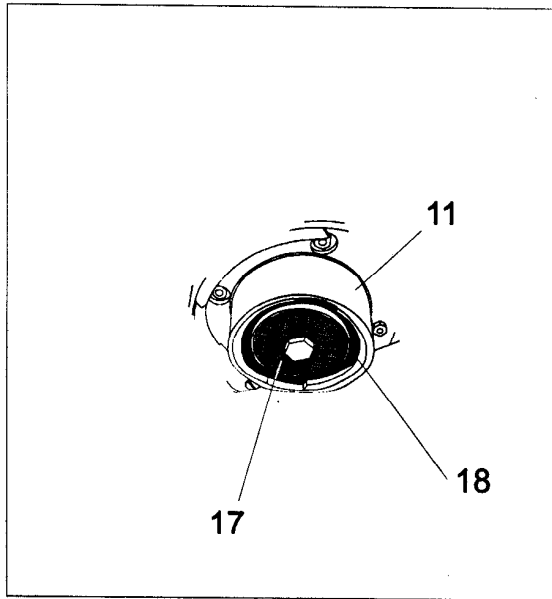

Fig. 4
- Clean the outside part, the nozzle 7 the delivery head 7 and the seal 8 of the group Fig.4.